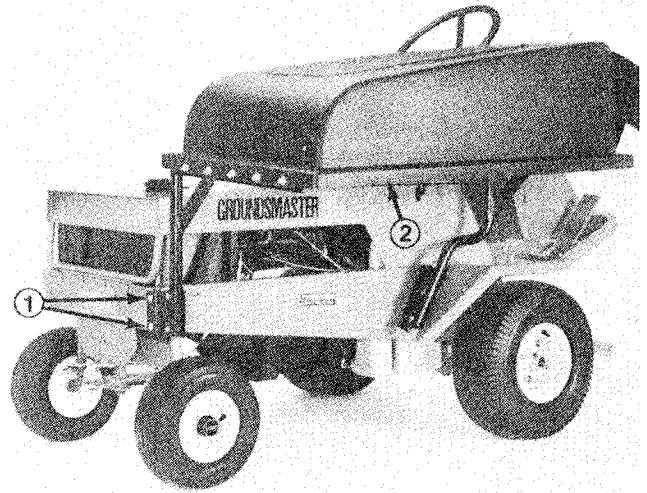

Figure 13
3. Slide hopper frame into mounting brackets, align mounting holes and secure with (5) 5/16-18 x 2 capscrews and nuts (Fig. 13).